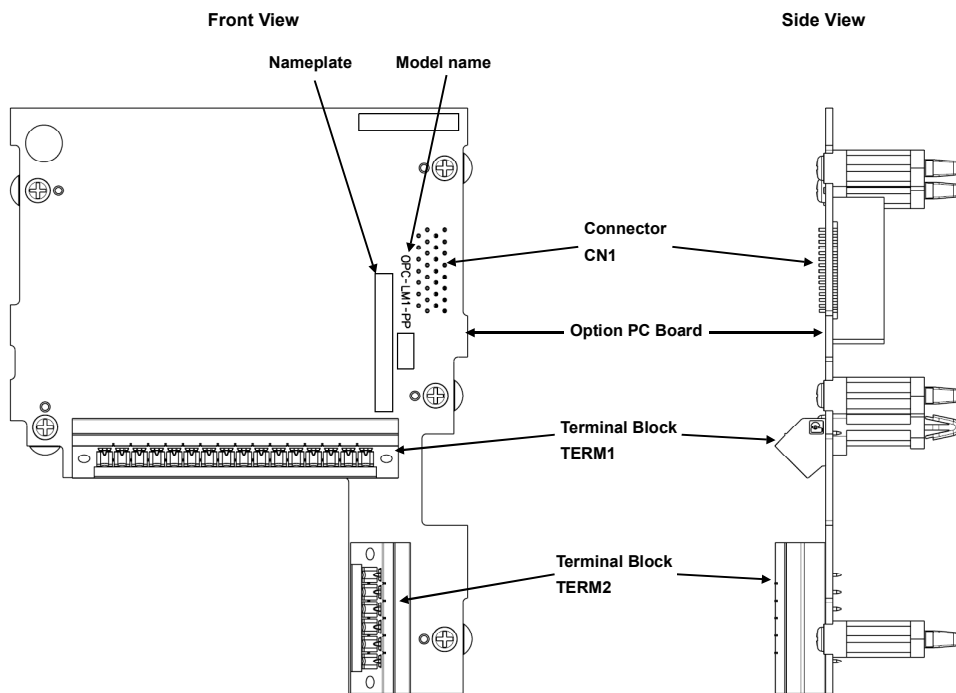

Figure1.1 Product Appearance.
- (1) The option card is contained in the package.
- (2) The option card is not damaged during transportation-no defective electronic devices, dents or warps.
- (3) The model name "OPC-LM1-PP" is printed on the option card. (See Figure 1.1)